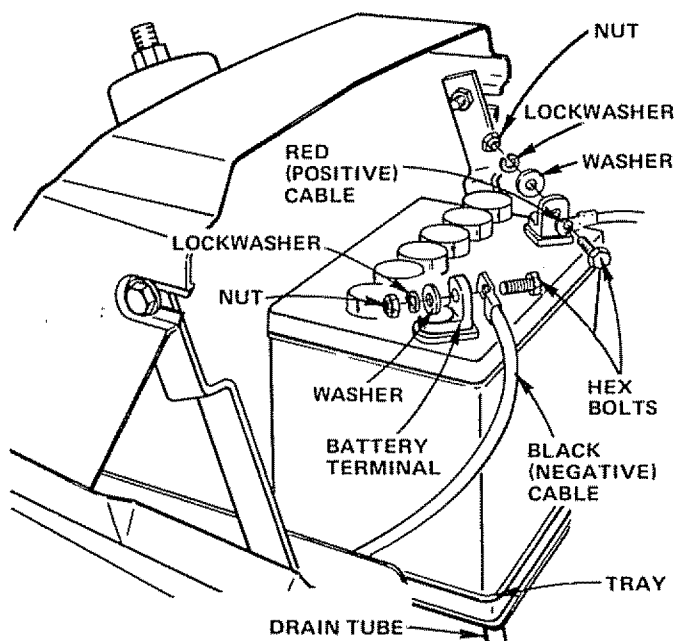

FIGURE 3
- c. Make sure Drain Tube (Fig. 3) is fastened to Drain Hole in Battery Tray and Battery Tray is positioned in hole of Battery Support.
- d. Place Battery in Plastic Tray (Battery Terminals to front of Tractor) (Fig. 3).
- a. Connect RED Battery Cable to Positive (+) Battery Terminal with Hex Bolt, Flat Washer, Lockwasher and Hex Nut (Fig. 3). Tighten securely.
- b. Connect BLACK Ground Cable to Negative (-) Battery Terminal with remaining Hex Bolt, Flat Washer, Lockwasher and Hex Nut (Fig. 3). Tighten securely.